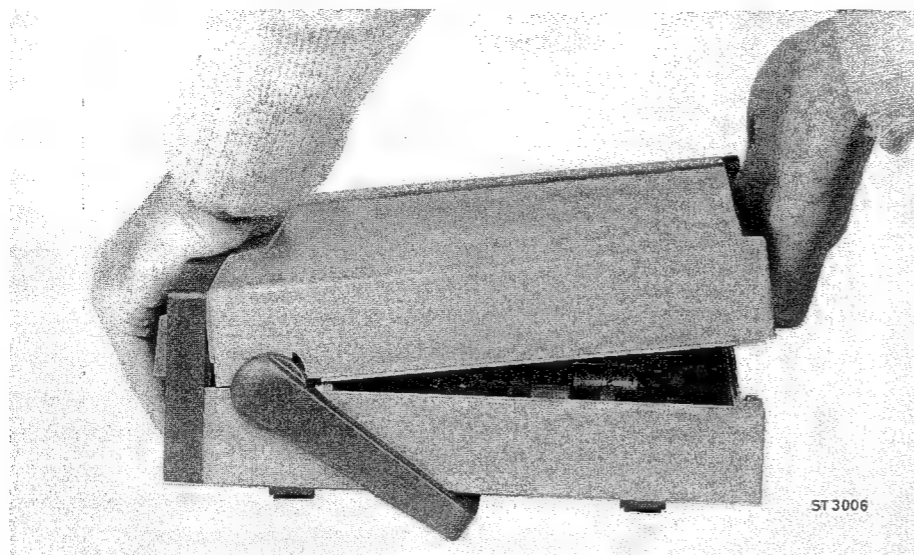

Fig. 41. Removing the top cover
2.1.1. Removing the top cover. (fig. 41)